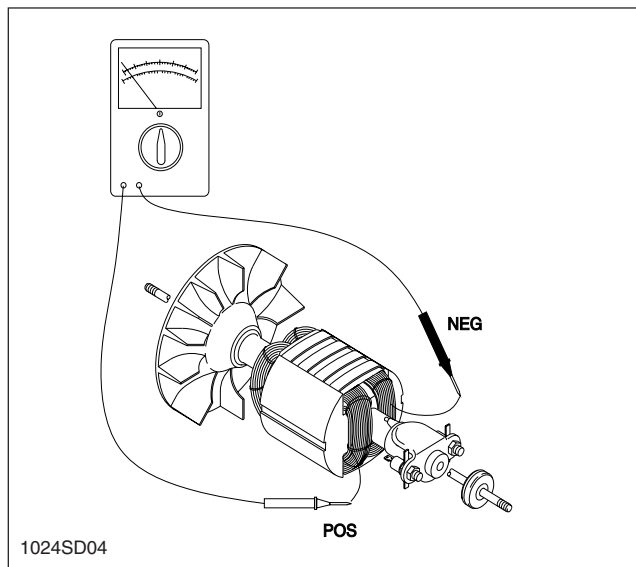

Figure 4-9. Rotor Winding Testing
3. Measure rotor resistance as shown in Figure 4-9.